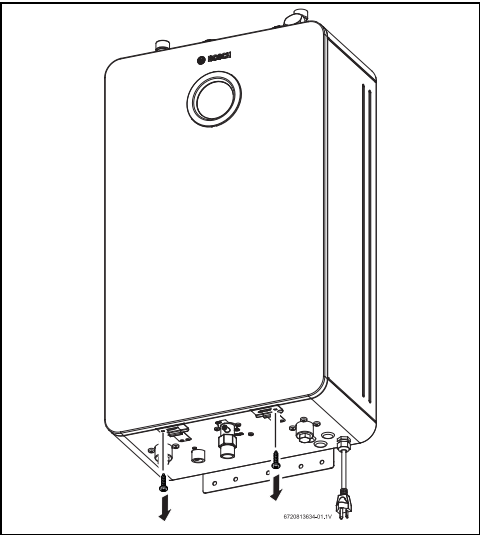

Fig. 3 Loosen two Phillips head screws
- Loosen two Phillips head screws located on the bottom of the front cover (fig. 3).